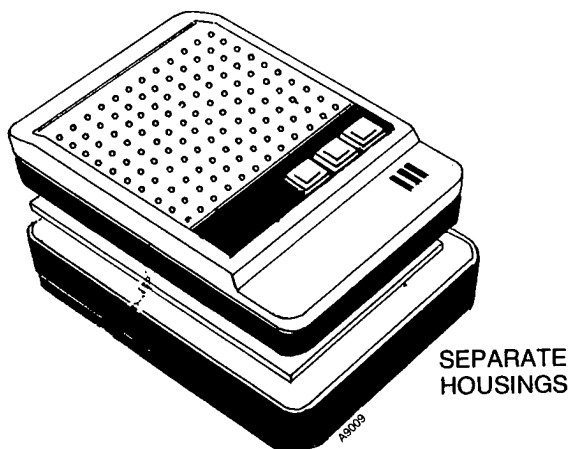

Figure 1 SEPARATING BASE AND COVER, MONITOR BOX
- Separate the base and cover of the unit by placing a screwdriver in the slots at the top and prying the base from the cover ( Figure 1 ).